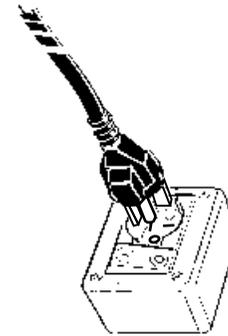

FIGURE 2
- For the system to be installed correctly and safely, it is essential to provide a suitable socket which complies with the national safety standards in force (see FIGURE 2).